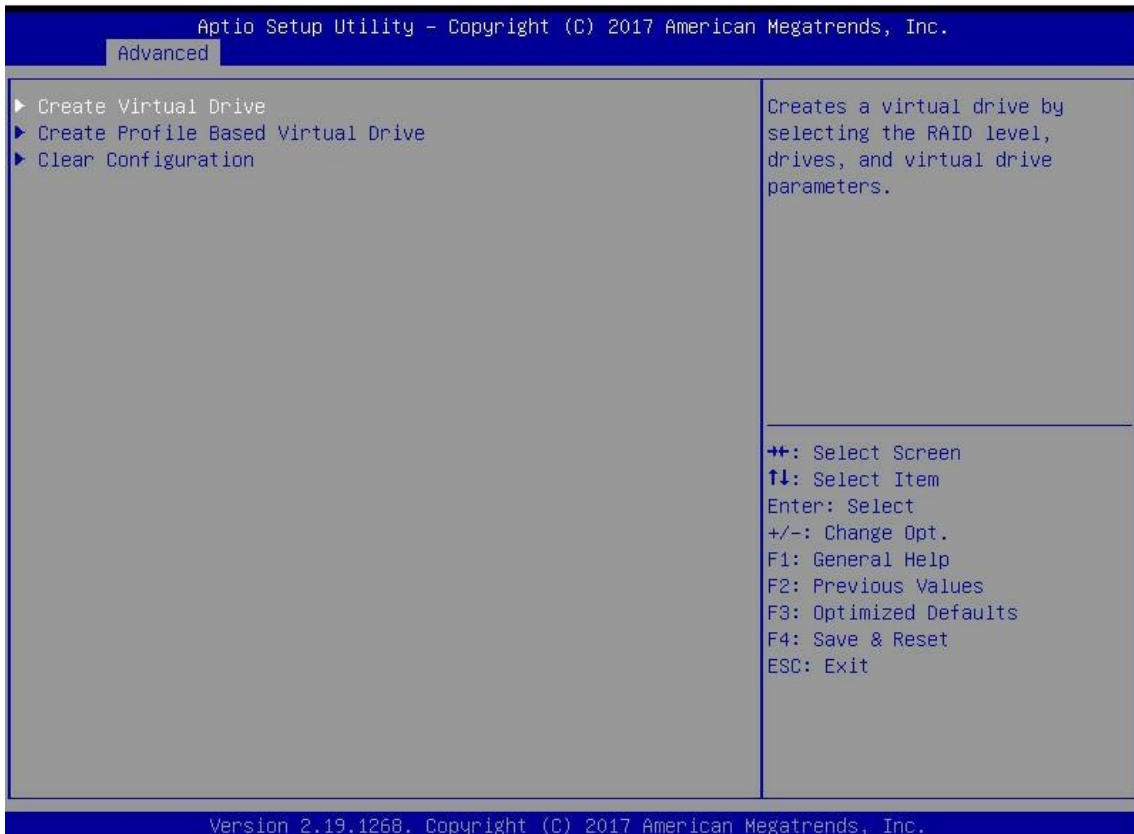

Figure 6-8
- b) Enter the interface shown in Figure 6-8, select create virtual drive, and press enter.